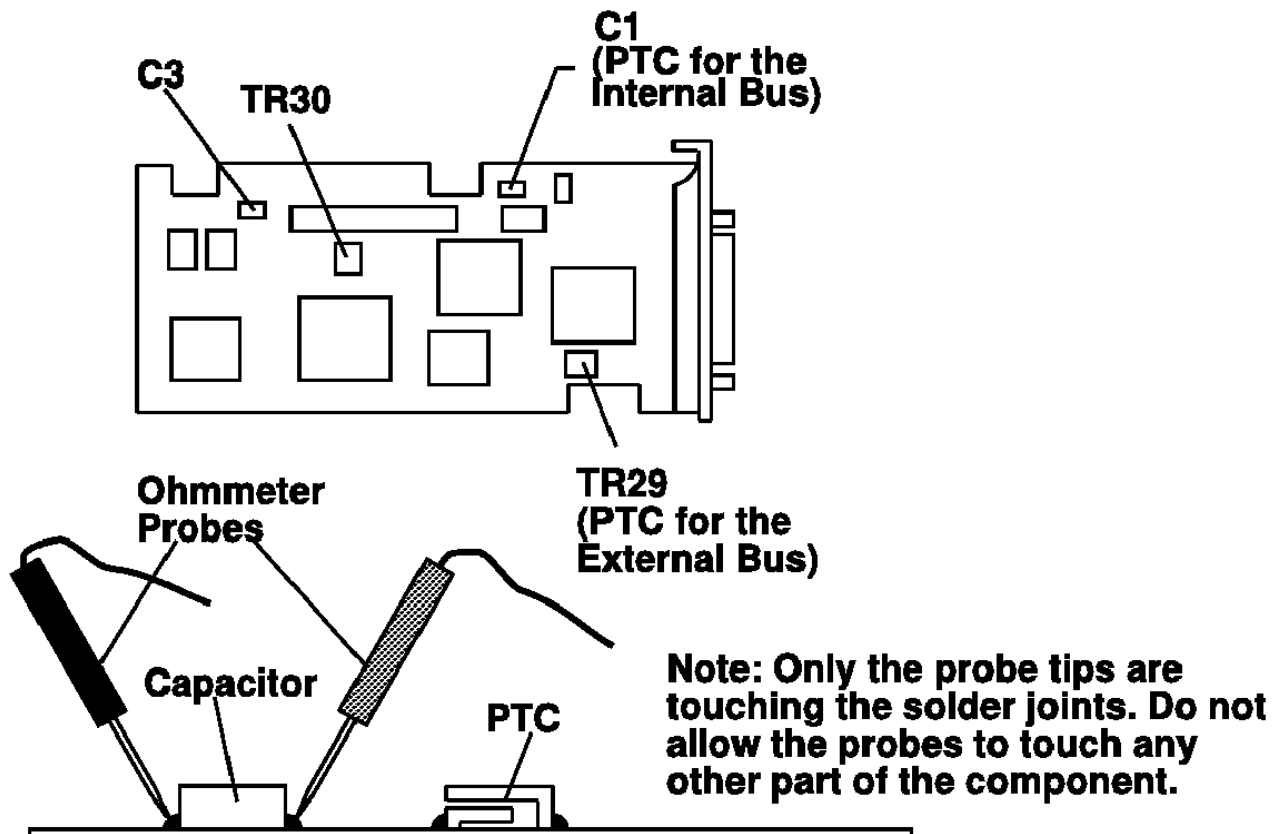

Figure 1-6. SCSI-2 Fast/Wide Adapter/A Test Locations
3. Verify with a digital Ohmmeter, that the internal PTC resistor, labeled TR30, is cool and in a low resistance state, typically less than 1/2 Ohm. Measuring across, be sure to probe both sides of the PTC where the solder joints a board come together. The polarity of the test leads is not important. If necessary, allow the PTC to cool and remeasure. Refer to Figure 1-6
3. Verify with a digital Ohmmeter that the internal PTC resistor, labeled TR29, (refer to Figure 1-6 in topic 1.3.21) is cool and in a low resistance state, typically less than 1/2 Ohm. Measuring across, be sure to probe both sides of the PTC where the solder joints and board come together. The polarity of the test leads is not important. If necessary, allow the PTC resistor to cool and remeasure.